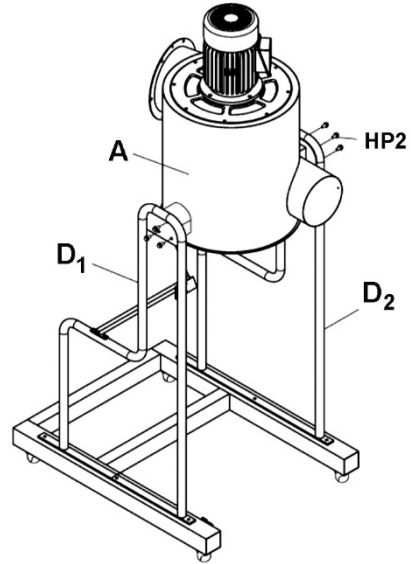

Figure 5
6. Position main housing (A) between left and right stands (D₁, D₂), and secure with six flange head screws (HP2). See Figure 5.